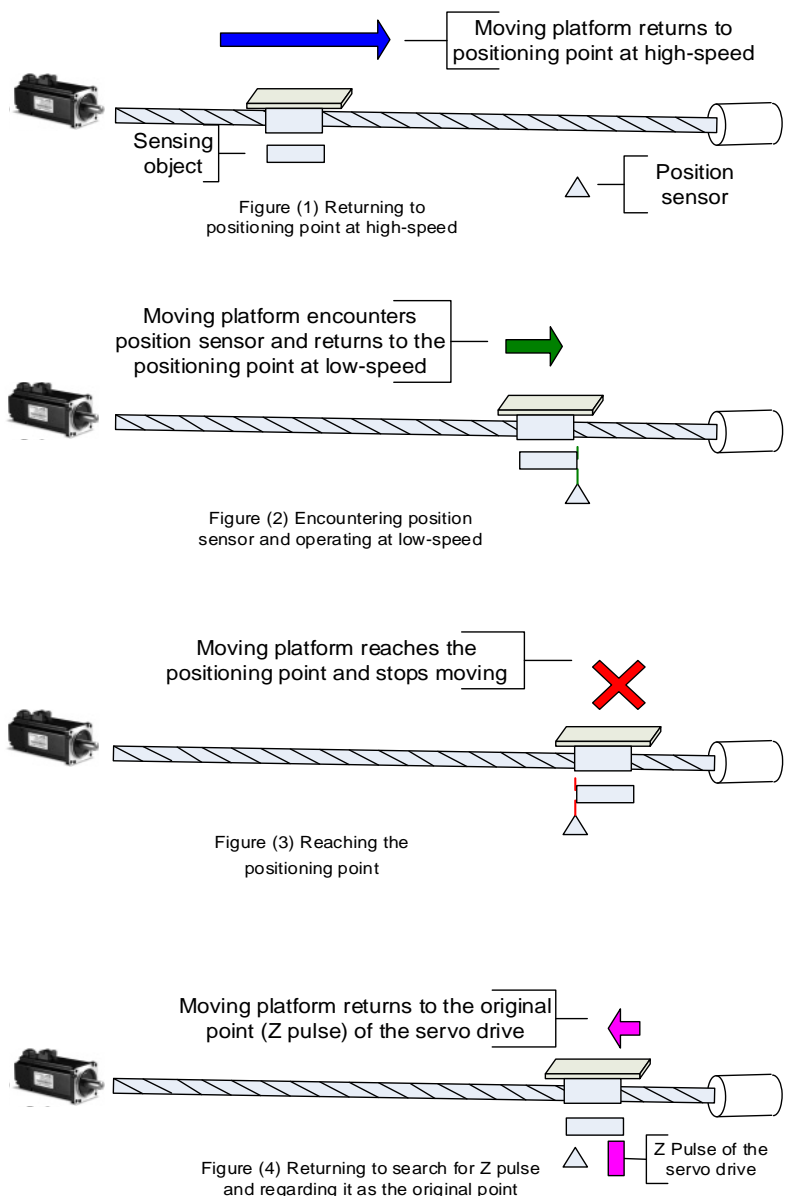

Figure 3.5.2 Returning to Positioning Point and Homing Origin
When gantry starts working, completed positioning and homing is required. Positioning is completed by a position sensor installed on the side of each axis. This position sensor must be correctly installed as this is the only part that enables the gantry to correct its parallel position. On gantry's moving platform, the sensing object with certain length is installed so that its length can be used to change gantry's moving speed. In this case, the positioning time can be shortened and precision level is improved. Also, please adjust the length and running speed of the sensor according to system requirements. Figure 3.5.2 shows the positioning control; after finishing positioning, positioning point can be regarded as the homing origin (shown in figure (3) of Figure 3.5.2). Or, as shown in figure (4) of Figure 3.5.2, the nearest Z pulse can also be the homing origin (either moving forward or backward to look for Z). The setting will be based on different circumstances and users' needs.